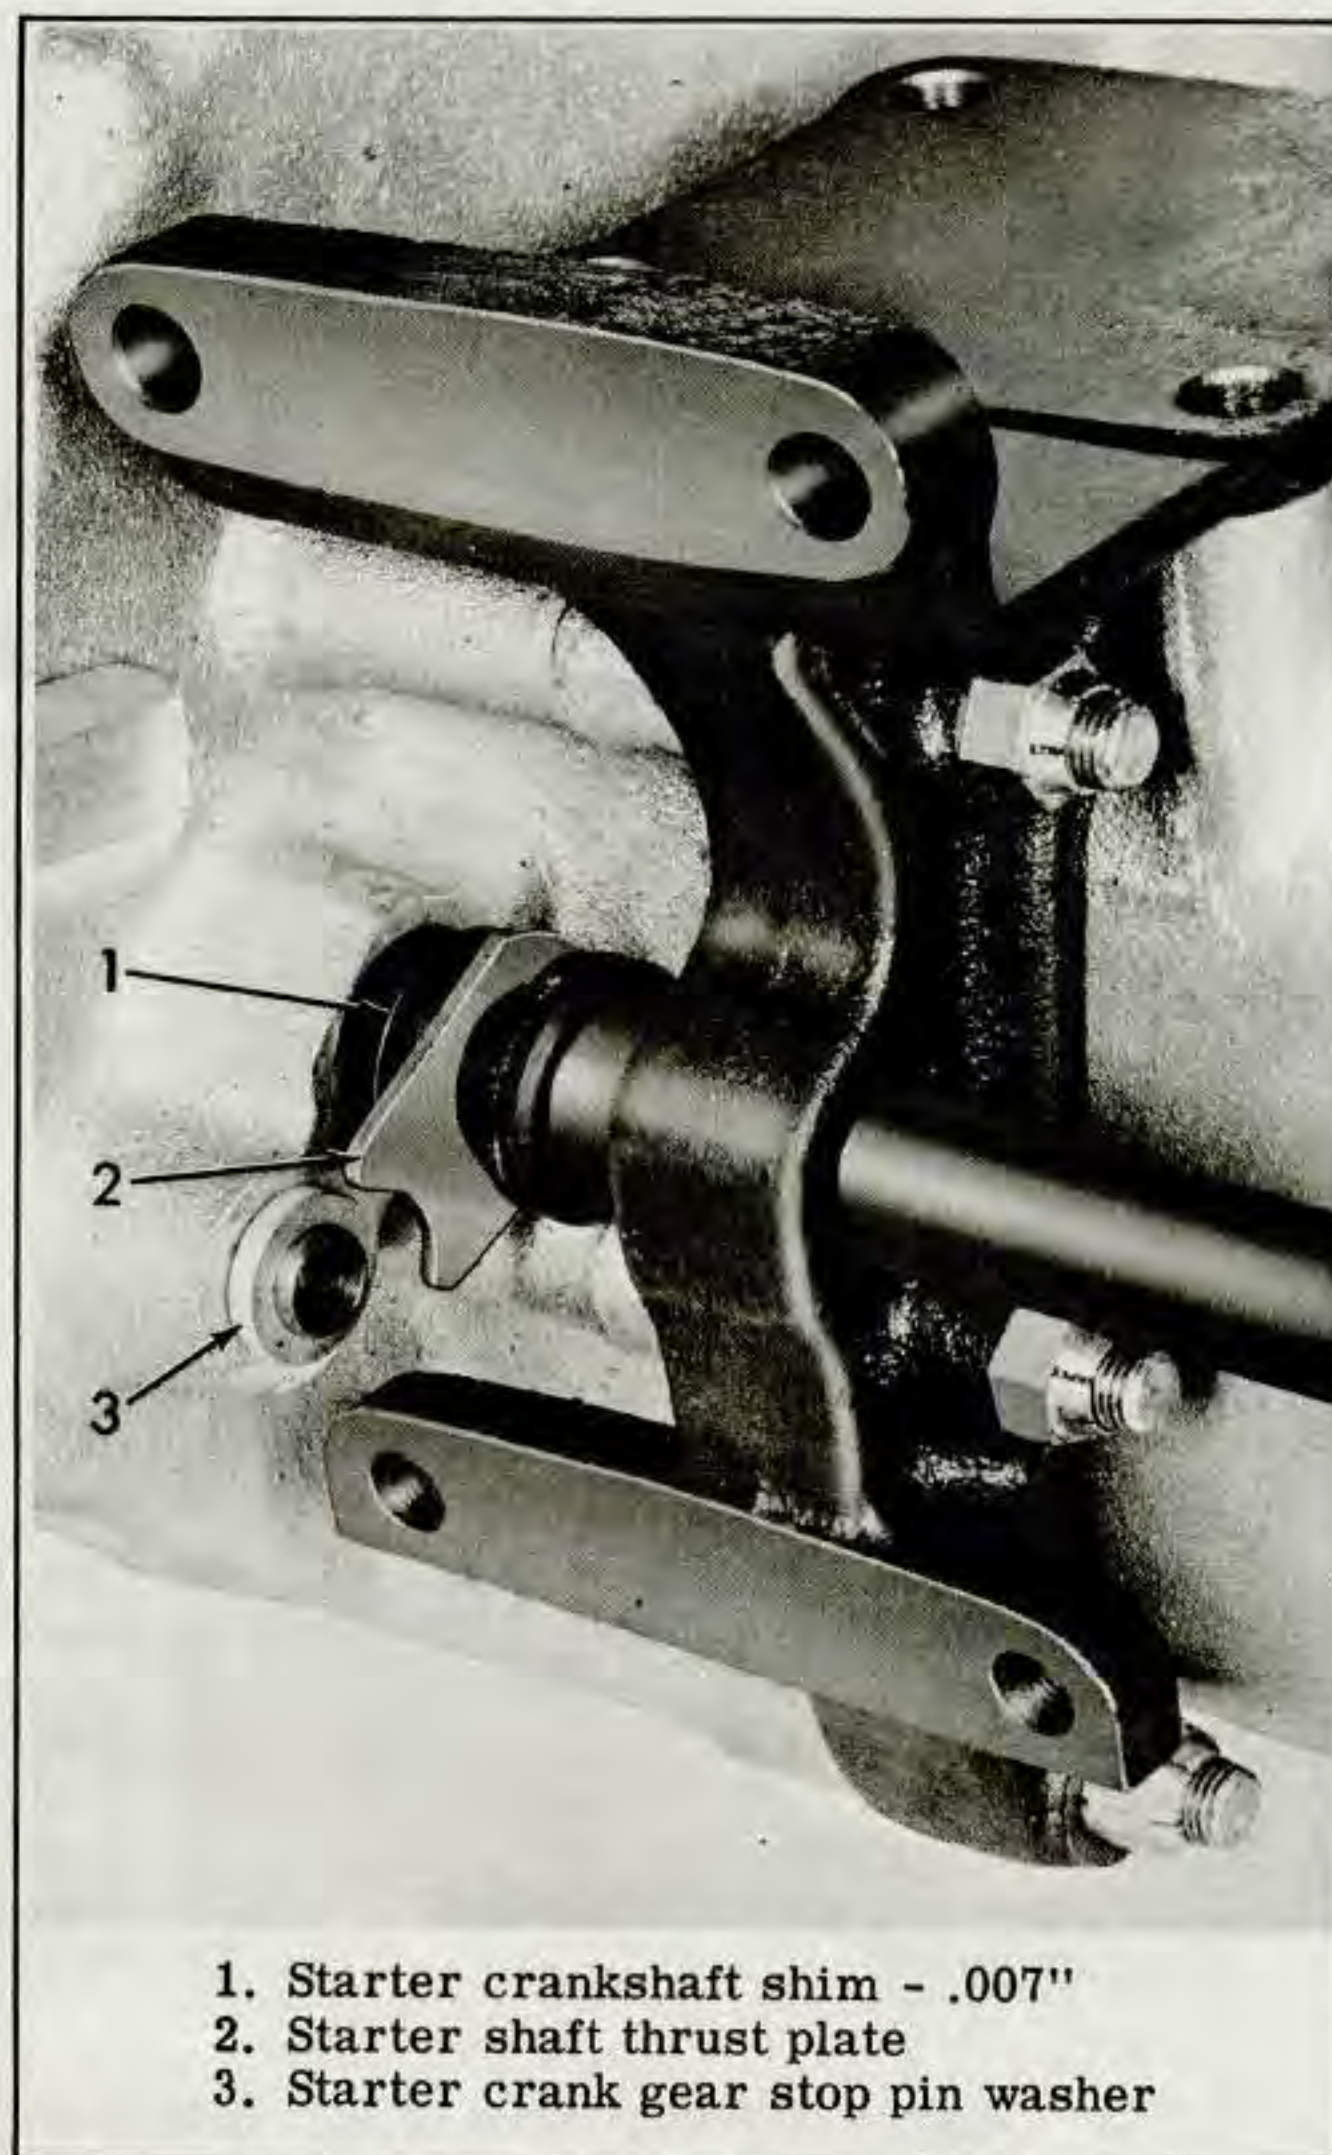

Figure 4C-3. Installing Starter Crankshaft
ASSEMBLY (Fig. 4C-2)
Install oil seal (13) in left crankcase. Slip thrust washer (15) on starter crankshaft (11), flat side of washer up as positioned on motorcycle. Insert steel shims (14) on crankshaft if needed, as described under "Inspection and Repair," and install crankshaft in left case engaging notched thrust plate (15) with stop pin washer (22) using grease to hold in place (see Fig. 4C-3).